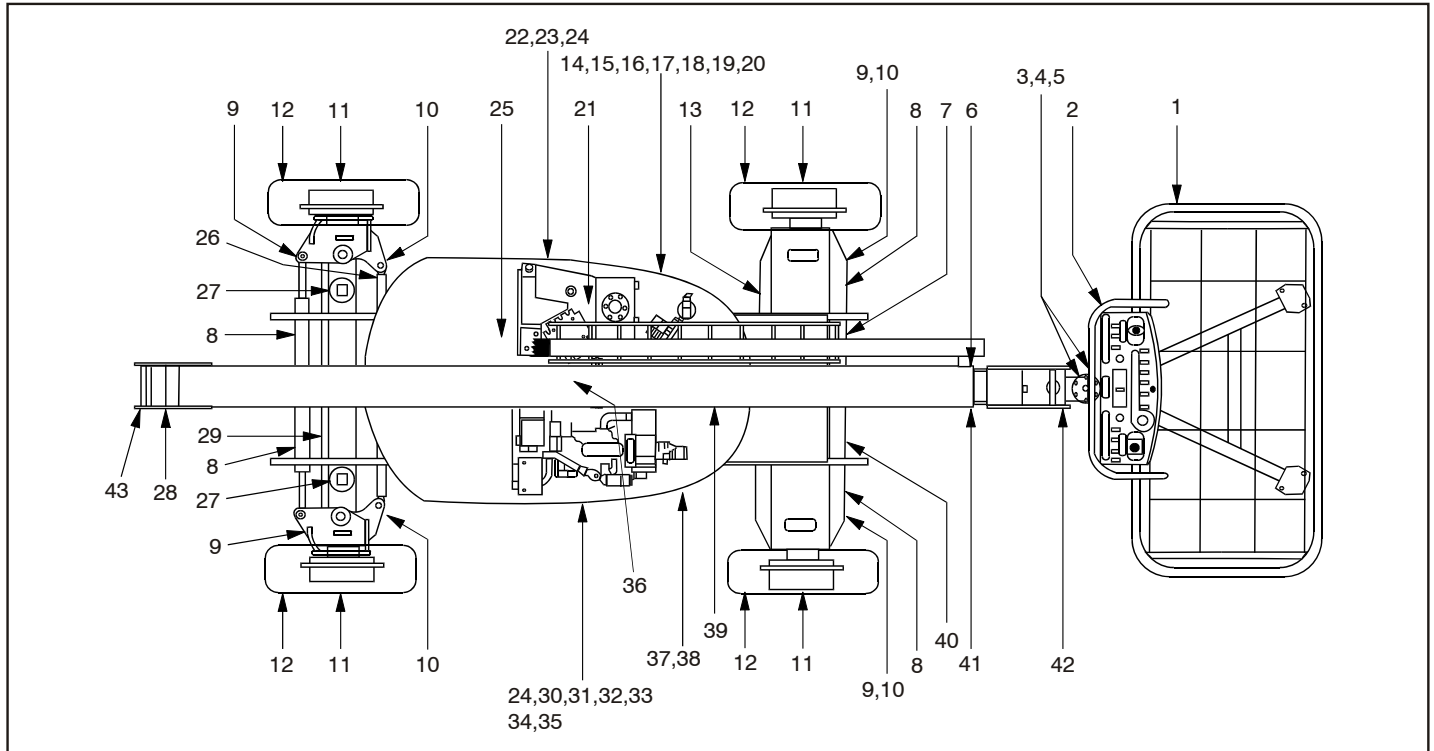

Figure 2-3. Daily Walk-Around Inspection (Sheet 1 of 4)
5. **“Walk-Around” Inspection** – Refer to Figure 2-3. and Figure 2-4.